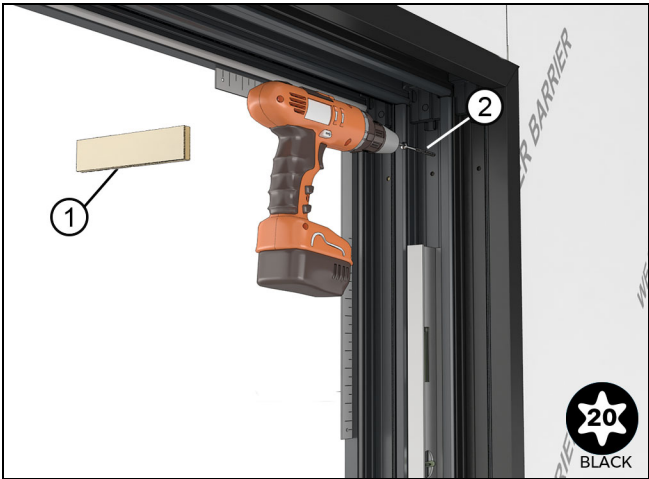

Figure 60
3. **Plumb and true the frame** so that it is aligned on the same plane. Move to the operator or opposite side and apply shims and adjust, then fasten through the operator (or opposite) jamb side near the top with a #10 x 3" (76) Torx (T20) screw provided. See Figure 60 and Figure 61.